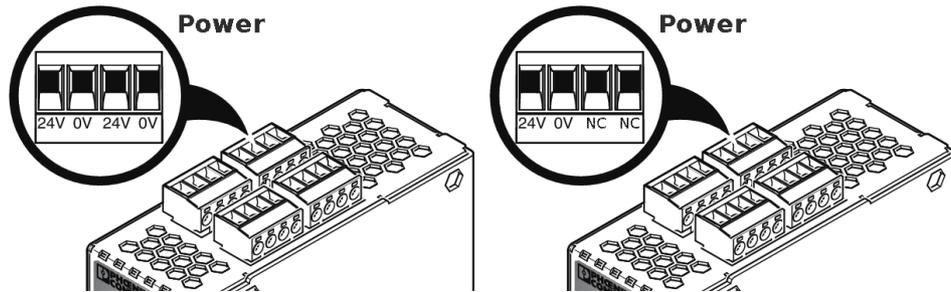

Figure 6-4 Connecting the supply voltage
- Insert the screw terminal blocks into the intended sockets on the top of the device (see Figure 6-4).